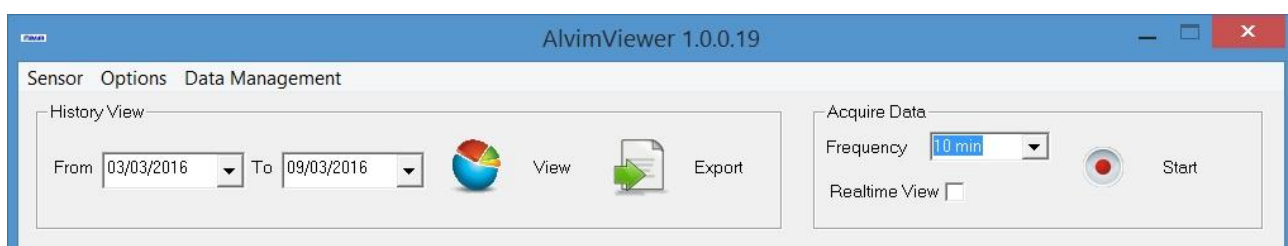

Figure 9: AlvimViewer main window
- **If you do not know the MODBUS addresses of connected Sensors**, click on "Scan" (Figure 9). Once the scan has been completed, you will see a list of detected Sensors, marked in the Status column as "New". Click on the last of the listed Sensors, enter the desired MODBUS address (between 1 and 247, it has to be different for each Sensor installed), a sensitivity value (see Choice of probe sensitivity level, p. 13), a name (e.g. Sensor1) and, optionally, a description (e.g. Installed at the water intake) for that Sensor. Click on "Insert" to store Sensor configuration data. Clicking on the "Check" button, the value of Sensor Potential (see AlvimViewer installation and configuration, p.13) will appear in the Information Box. Repeat this procedure for each Sensor.
- **If you know the MODBUS addresses of connected Sensors**, enter the first one in the "Address" field (Figure 9), then enter a sensitivity value (see Choice of probe sensitivity level, p. 13), a name (e.g. Sensor1) and, optionally, a description (e.g. Installed at the water intake), then click "Check". If the address is correct, in the Information Box you will see the value of Sensor Potential (see AlvimViewer installation and configuration, p.13). Click on "Insert" to store Sensor configuration data. Repeat this procedure for each Sensor.
Once the Sensors in the plant have been configured (see p.11), launch AlvimViewer and choose, in the main window (Figure 9), a **data acquisition frequency** (usually 1 point every 30-60 minutes is enough), then click on the "Start" button.
The "**History View**" Box (Figure 9) allows to plot the data of a selected time period. To view real-time data again, remember to check "Realtime View" Box.